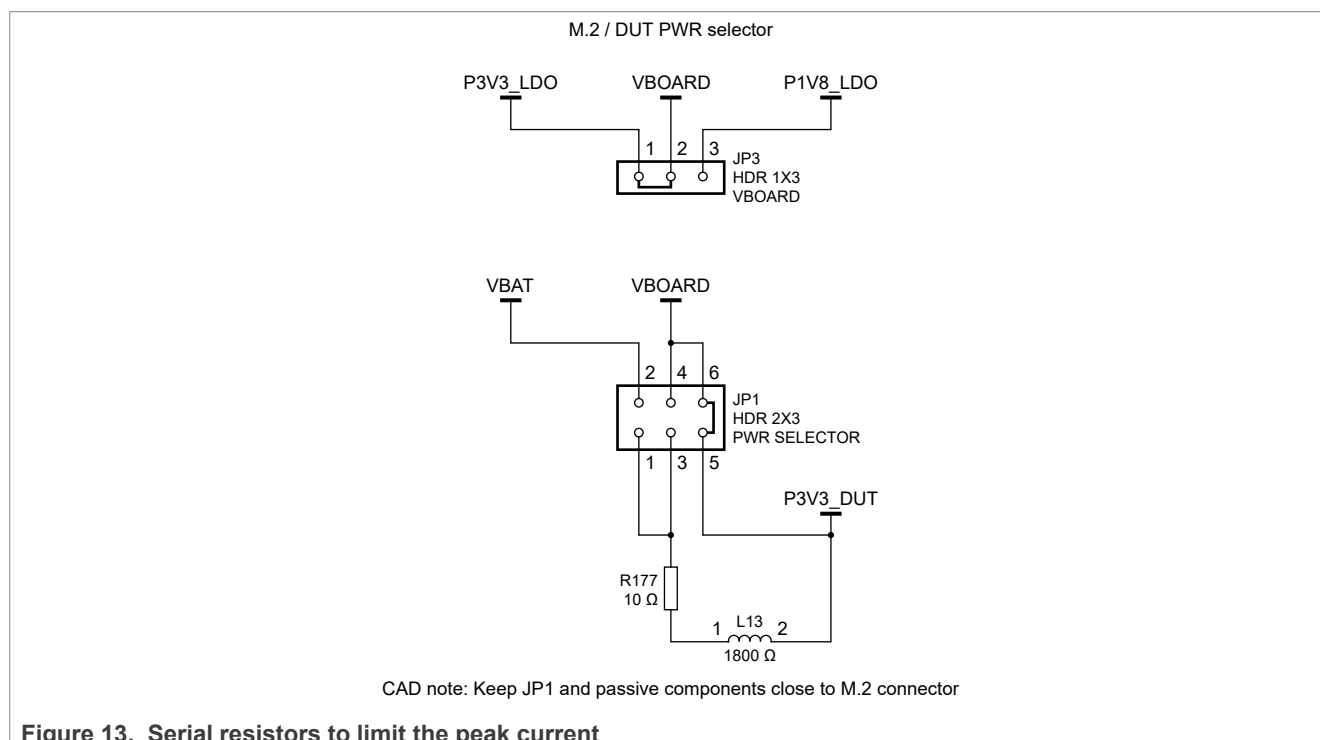

Figure 13. Serial resistors to limit the peak current
1. Choose the hardware Buck or Bypass mode selection, see Figure 13.